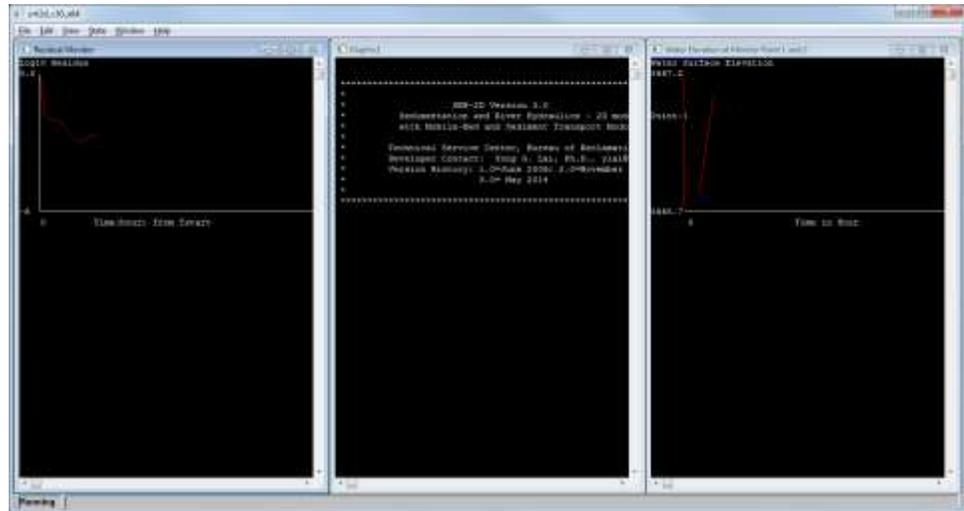

Figure 8 Wrapper window showing SRH-2D running status
2. Click **OK** if a warning is displayed stating that the “Materials” coverage will be renumbered before exporting. This brings up the *SRH-2D: Gila Flow* dialog and a wrapper window with three windows (Figure 8).